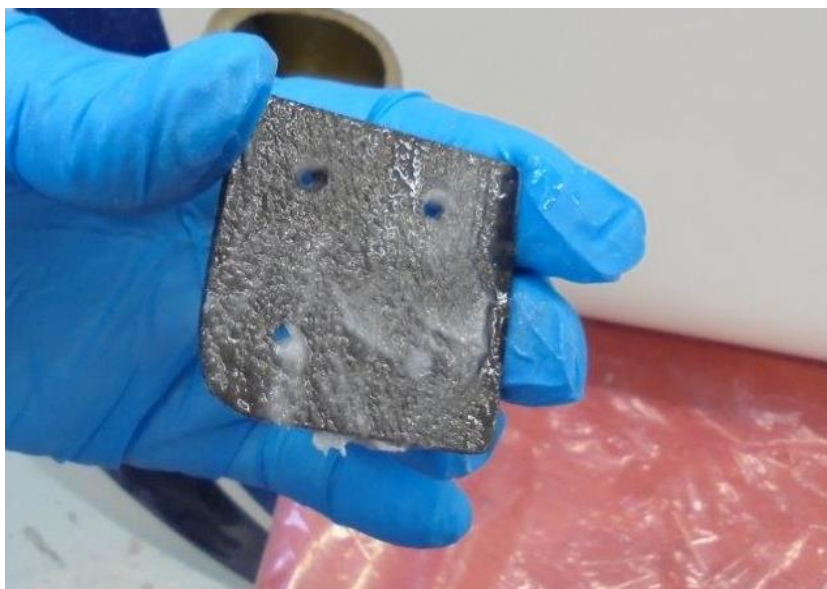

Figure 7: Thickened resin applied to CFRP repair plate
7.1.15 Apply thickened resin to the repair plate and to bonding area, refer to Figure 7.